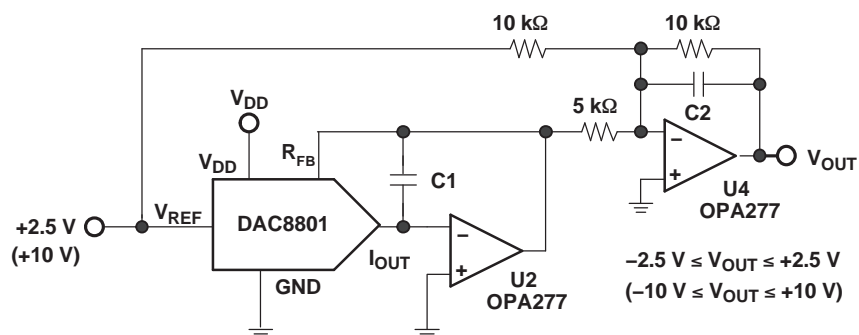

Figure 22. Bipolar Output Circuit
Some applications require full 4-quadrant multiplying capabilities or bipolar output swing. As shown in Figure 22, external op amp U4 is added as a summing amp and has a gain of 2X that widens the output span to 5 V. A 4-quadrant multiplying circuit is implemented by using a 2.5-V offset of the reference voltage to bias U4. According to the circuit transfer equation given in Equation 2, input data (D) from code 0 to full scale produces output voltages of  $V_{OUT} = -2.5$  V to  $V_{OUT} = 2.5$  V.